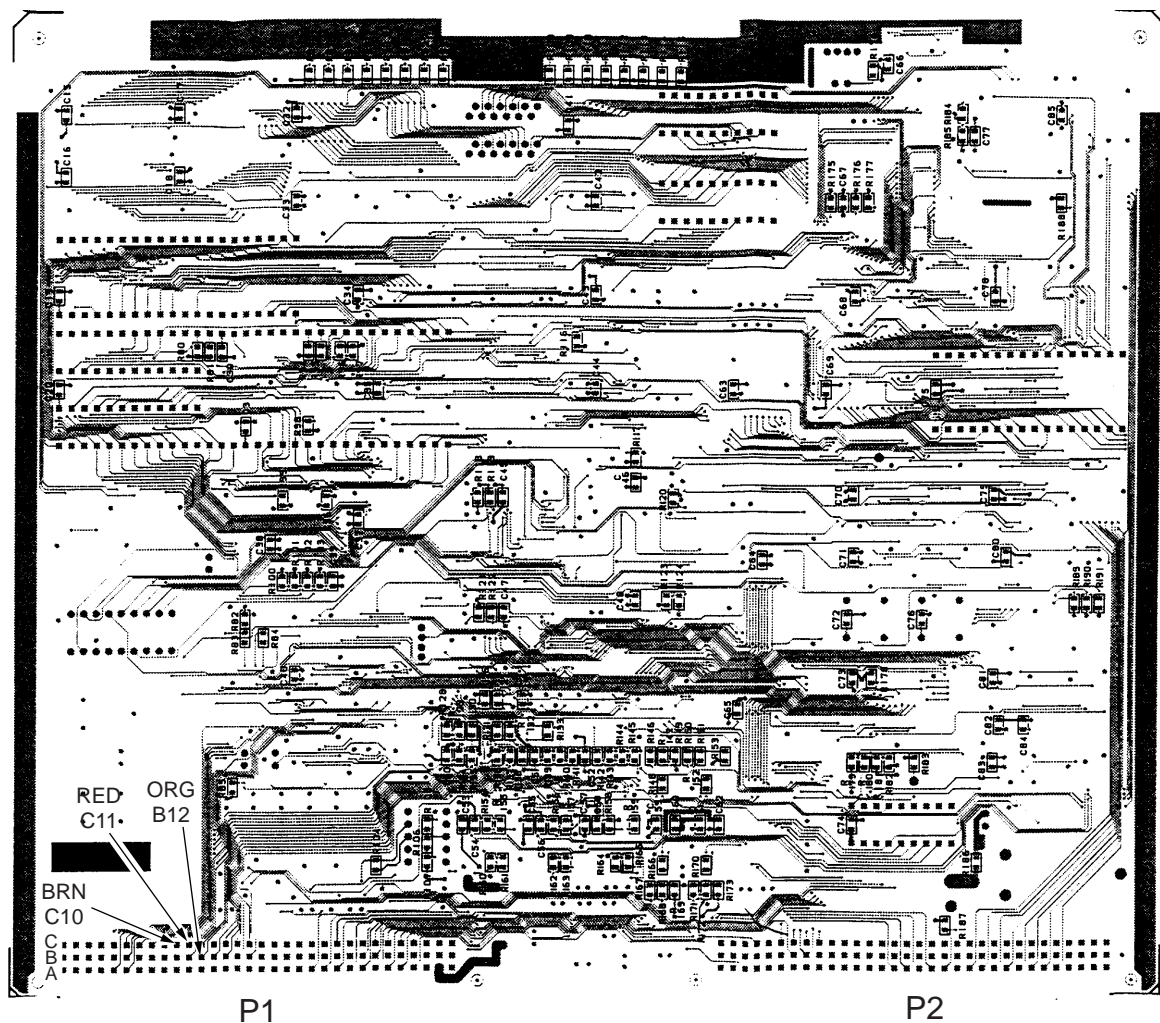

Figure 26 CPU2 Board, silk side
9. Connect the cable assy. (SMP3P-L300-AB) to HSD CTRL cable. Solder the cable assy. to the CPU2 Board (16P0081). See Figure 26 for location.